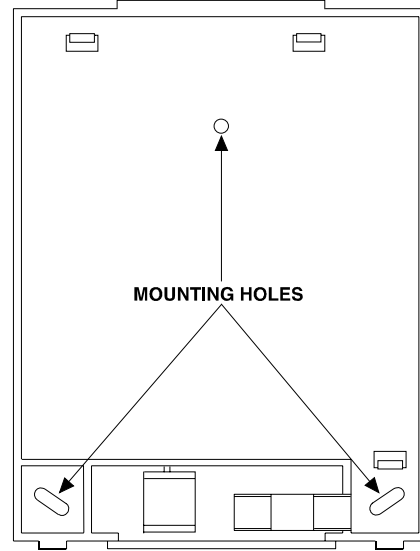

Figure 7. Mounting Hole Locations
- 4) Hold the base against the mounting surface and mark the three mounting holes (see Figure 7).